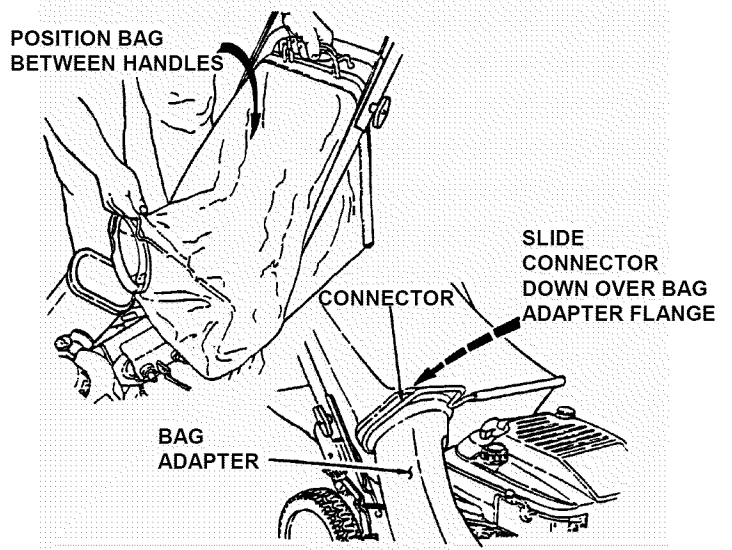
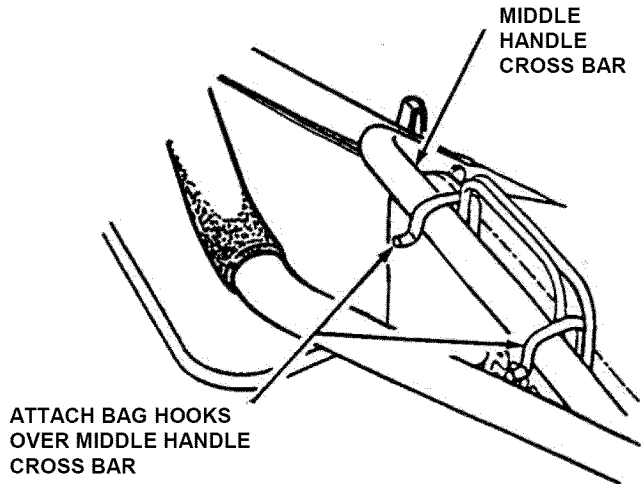

FIGURE 2.11
FIGURE 2.12
STEP 1: Install grass catcher by sliding connector over flange of adapter. See Figure 2.11. Attach grass bag hooks over middle handle cross bar. See Figure 2.12.
STEP 2: Attach grass bag hooks over middle handle cross bar. See Figure 2.12.